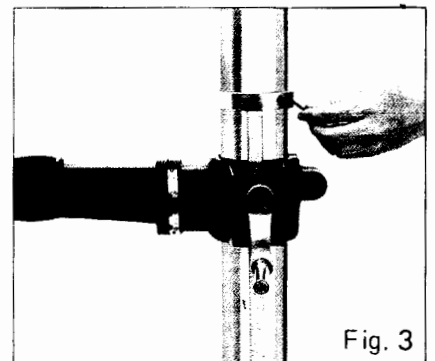

Fig. 3
- 2-3 Install collar and fix it firmly. Fig. 3